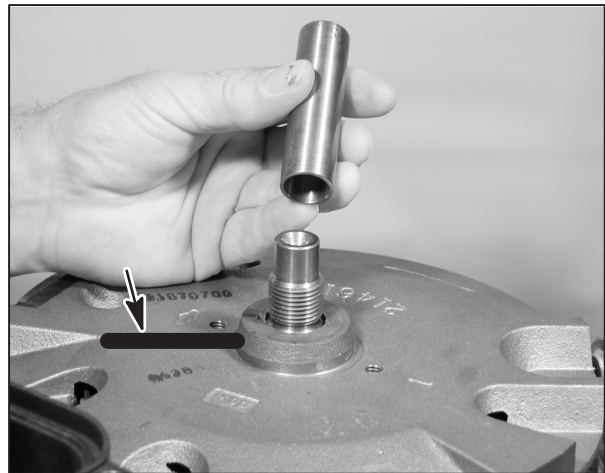

Fig. 18
3. Mark the flywheel (arrow) as shown to locate the flywheel keyway when reinstalling, **Fig. 18**.